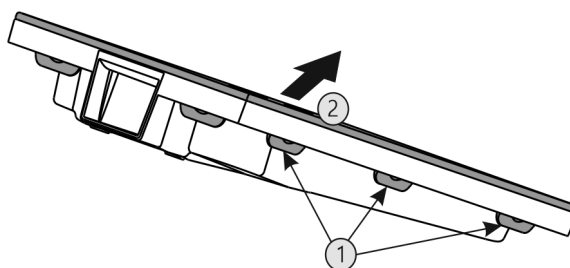

Fig. 57
- Press all lugs Fig. 57 (1) one after another and remove the cover Fig. 57 (2).